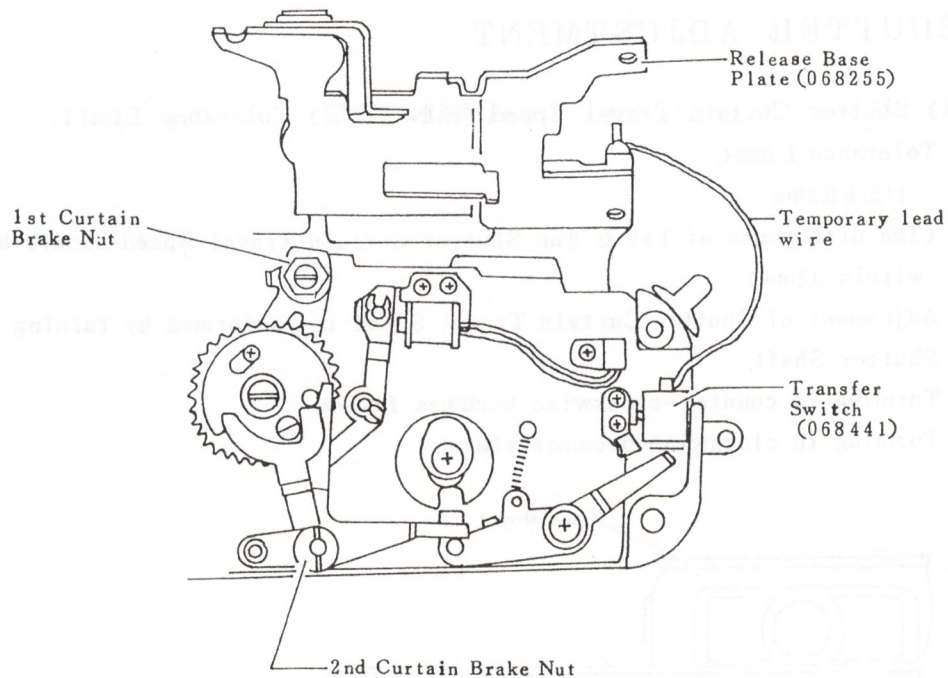

Fig 31
(2) Shutter Curtain Bound Adjustment.
a) Resolder temporary lead wire between the Transfer Switch and part of FPC(1) as shown in (Fig 31)